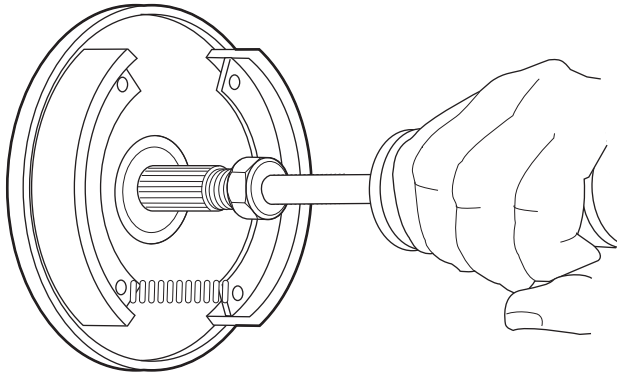

Figure 3 Removing/Installing Axle Shaft
3. Attach a slide hammer to the axle shaft thread and remove the axle and bearing from the axle tube (Ref. Figure 3).